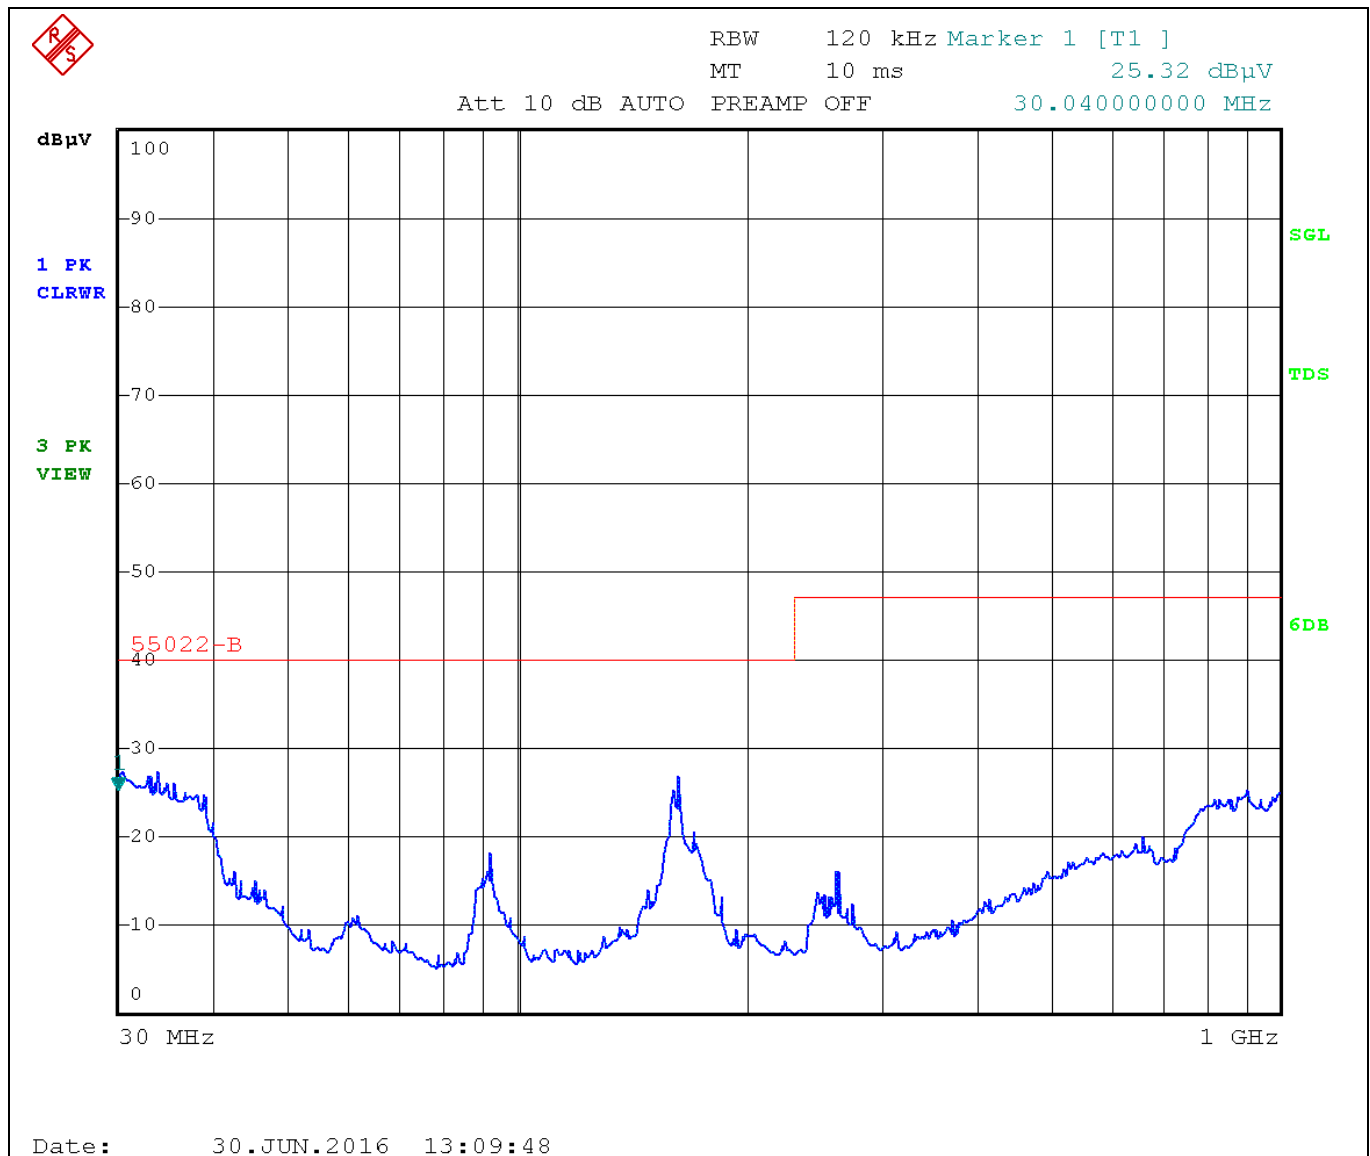

Figure 19 EMI-radiated measurement results. Board positioned perpendicular to the antenna. Antenna position is vertical
- Board was positioned perpendicular to the antenna and the antenna was vertical (Figure 19)